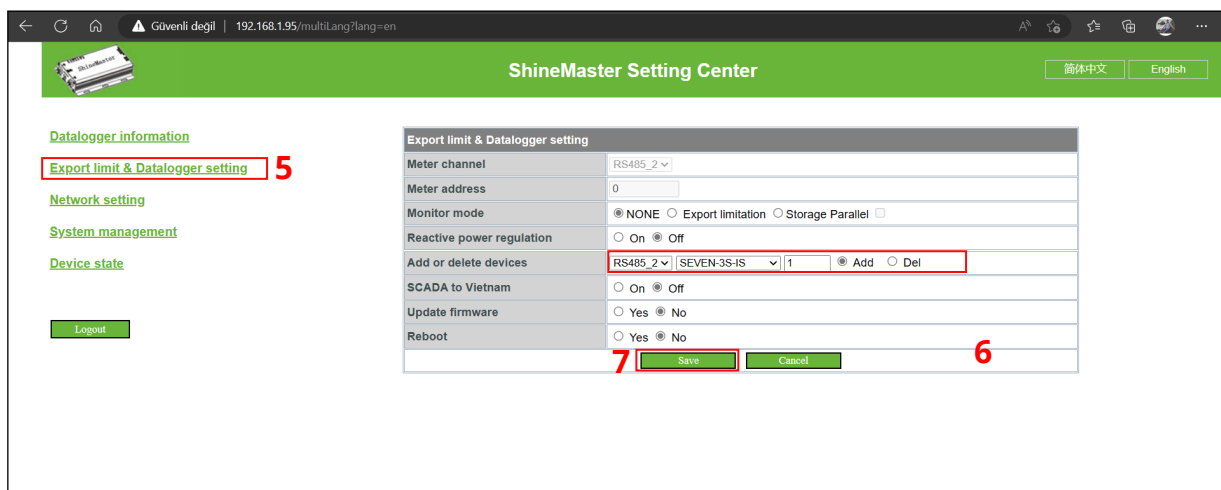

Figure 4: Export Limit&Datalogger Setting
Step 6 : To add the SEVEN Sensor Box as shown in Figure 4, select the RS485 port which the SEVEN Sensor is connected to and select "SEVEN-3S-IS" for automatic configuration from "Add or delete devices section". Then enter the ID of the Sensor and select "Add" option.